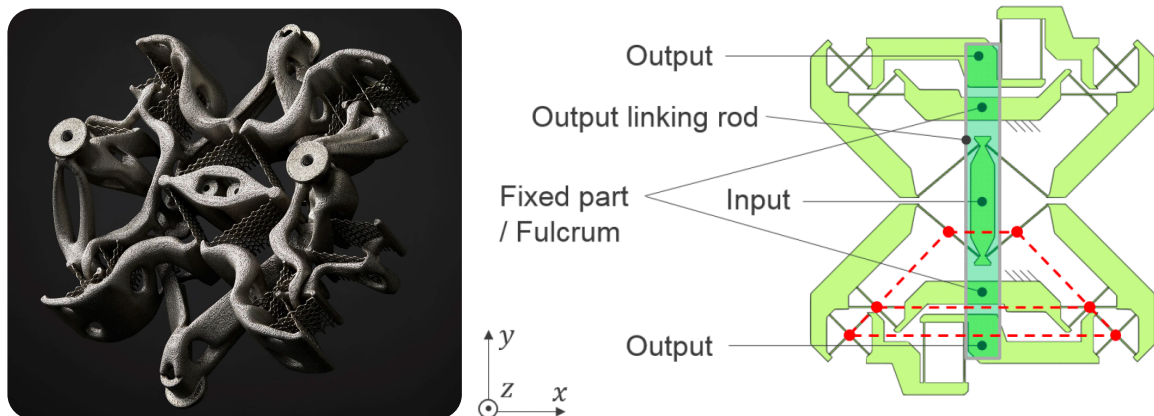

Figure 2 : Compliant Rotation Reduction Mechanism
- Do not forget to count the output linking segment. It does not appear on the Fig. 2 left.